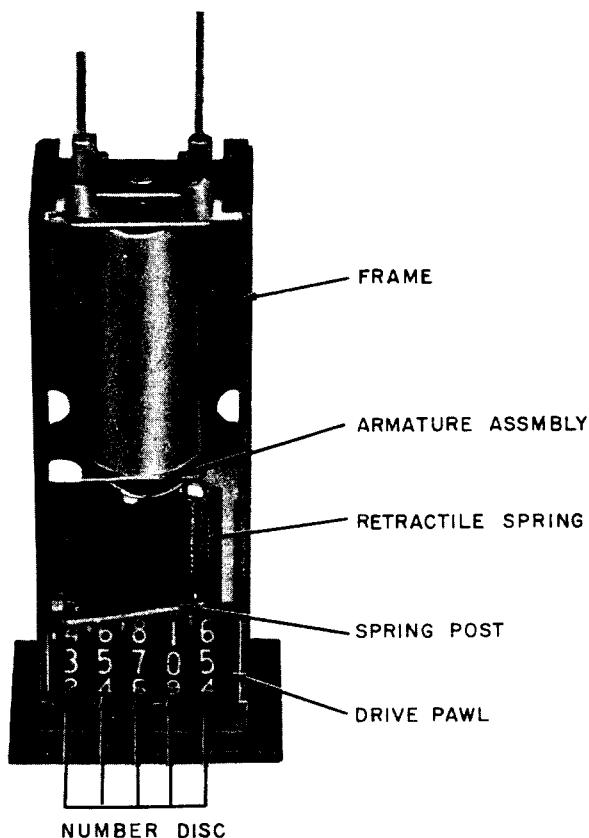

Fig. 1—19A Register With Cover Removed
1.05 The 19A register (Fig. 1) is a 5-digit, nonresettable, electromagnetic counter arranged for front or panel mounting. If the 19A register is used to replace a KS-14359 counter, a 145A adapter must be used. The 19A register has a one-piece frame and a one-piece pawl which advances the units disc one-half step when the register operates and the remaining half step when it releases. The 19A is similar to the 14-type MOD 2, except it is more compact and is front mounted.